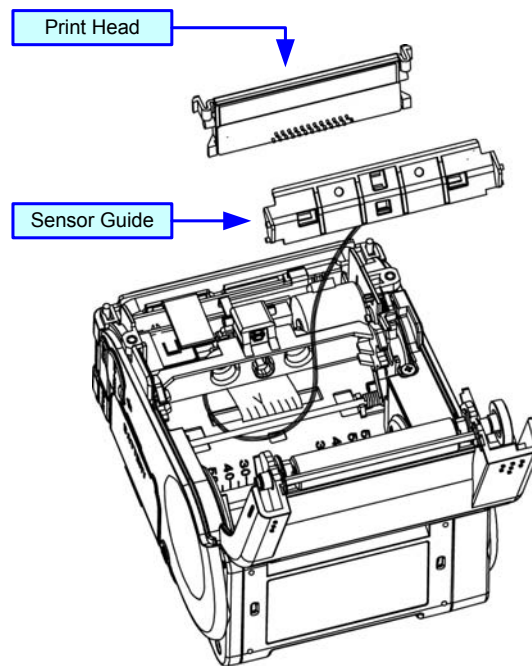

Figure 7-9b, Gap Sensor Replacement
- 6 Perform step 4 for each end of the print head until it is removed (Figure 7-9b).